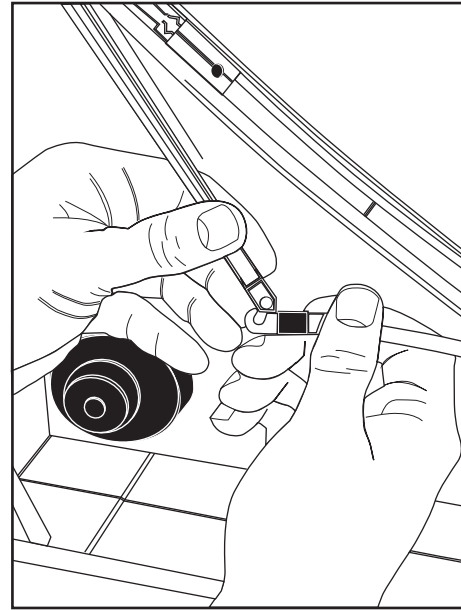

Fig. 198 — Belts Linked Together
5. Link belt ends together with belt wrapped around wheel (Fig. 198).